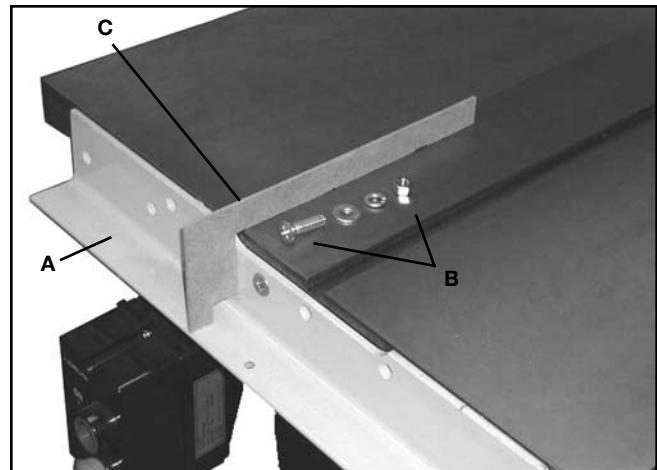

FIG. 5
1. Assemble front rail (A) Fig. 5 to the front edge of the saw table using the two 5/16-18 x 1-1/4" long flat head Phillips screw, flat washer, 3/8" lock washer and 5/16-18" hex nut (B) supplied. Screws are inserted through the two larger countersunk holes in the front rail and into the two holes in the front of the saw table and fastened with the flat washer, lock washer and hex nut. **IMPORTANT:** Do not tighten front rail mounting hardware at this time.
2. Using template (C) Figs. 5 & 7, Check and adjust the front rail on both sides of the saw blade as shown, to make sure the rail is parallel with the table surface. The horizontal portion of the rail should be down from the top of the table surface 2-27/32". **Tighten the front rail mounting hardware when you are certain the rail is set at the proper depth.**